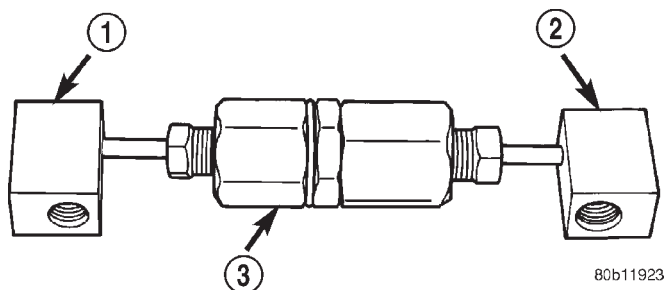

Fig. 19 Pressure Test Fittings Installed On Proportioning Valve
(6) Install Pressure Test Fitting, Special Tool 6833-1 in the inlet port of the proportioning valve (Fig. 19). Install Pressure Test Fitting, Special Tool 8187-2 in the outlet port of the proportioning valve (Fig. 19). Tighten tube nuts to a torque of 17 N·m (145 in. lbs.).